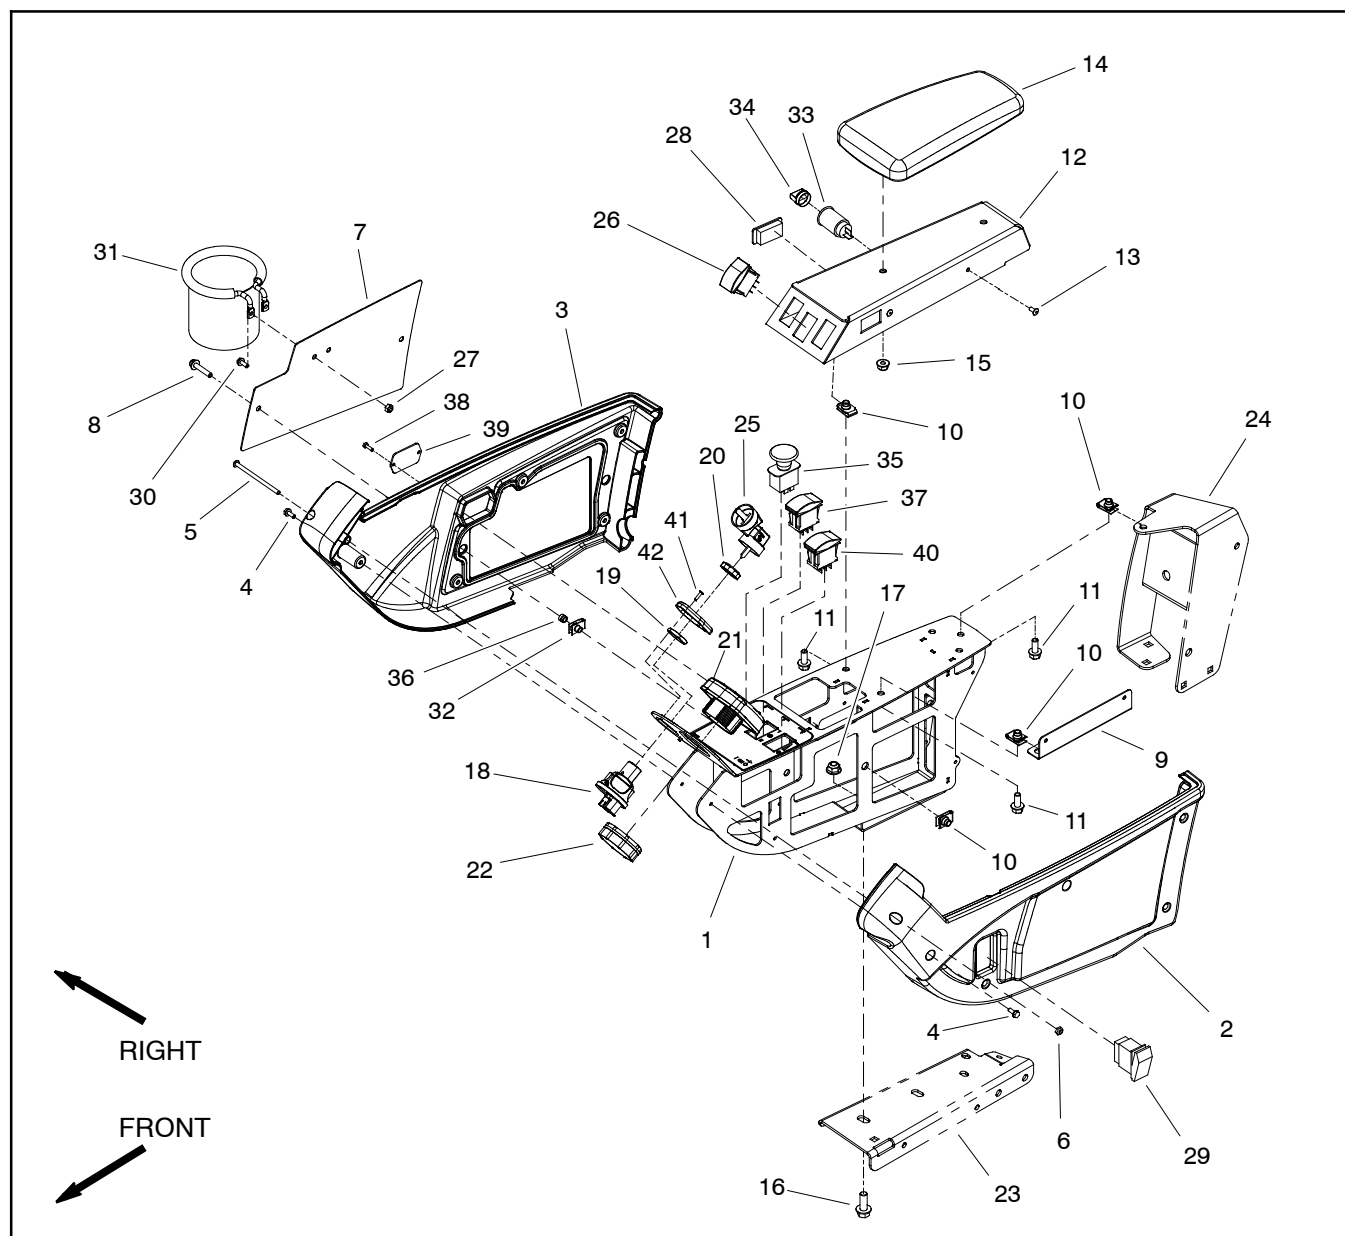

Figure 8
### Disassembly (Fig. 8)
2. Remove two (2) flange head screws (item 8) and then cover plate (item 7) from outside of console arm. Locate and retrieve two (2) flange spacers (item 36).
3. At front of console arm, remove screw (item 5) and lock nut (item 6) that secure console arm covers to each other.
4. Remove five (5) washer head screws (item 4) that secure each cover to console arm panel.
5. Remove console arm covers from machine. As LH cover (item 2) is removed from console arm, unplug wire harness connector from headlight switch.
6. Remove electrical components from console arm as needed using Figure 8 as a guide.
7. If necessary, remove console panel and supports from machine using Figures 8 and 9 as guides.
### Assembly (Fig. 8)
1. Install all removed electrical and console arm components using Figure 8 and 9 as guides.
2. Position covers to console arm. As LH cover (item 2) is placed, plug wire harness connector to headlight switch.
3. Secure each cover to console arm with five (5) washer head screws (item 4). Install screw (item 5) and lock nut (item 6) to secure covers at front of console arm.
4. Position cover plate and flange spacers to outside of console arm. Secure with two (2) flange head screws.